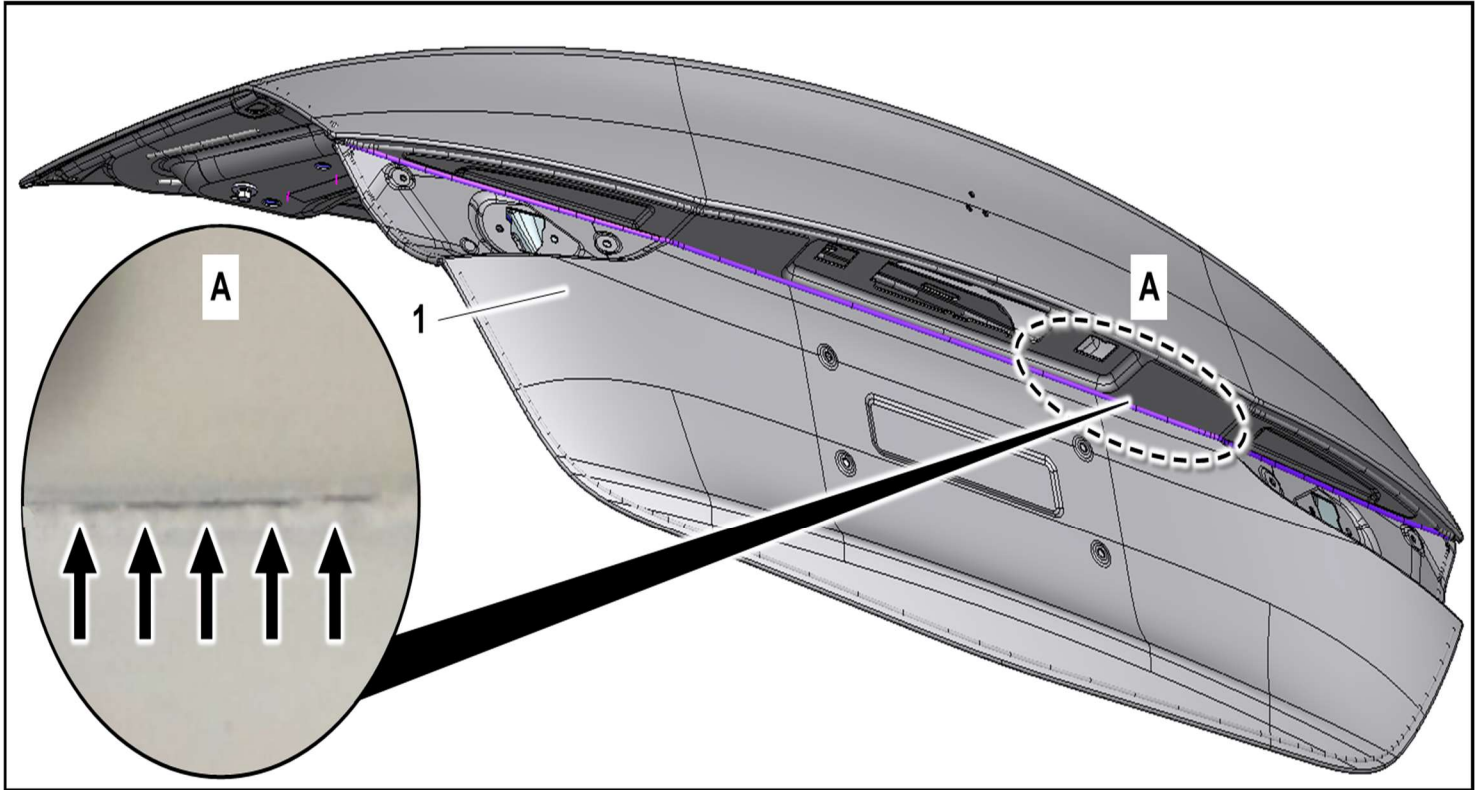

Figure 1
1. Inspect the weld seam on trunk lid (**Figure 1, 1**) at the depicted location (**Figure 1, A**) for a possible crack.
- a. **Crack is** visible on trunk lid (**Figure 1, 1**) at specified location (**Figure 1, A**) – Carry out **Work Procedure**.
- b. **No crack** visible on trunk lid (**Figure 1, 1**) at specified location (**Figure 1, A**) – **End Measure**.
1. Replace trunk lid (**Figure 1, 1**).